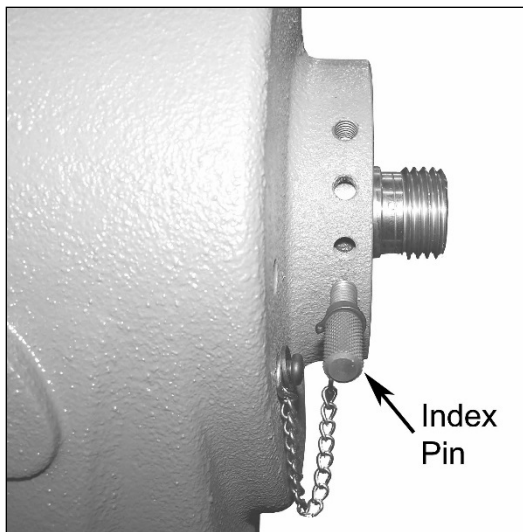

Figure 27
There are 12 holes in the spindle collar spaced 30° apart, and 4 holes in the headstock casting which accept the index pin (see Figures 27 & 28). The combination of these holes will allow you to mark your workpiece for evenly spaced features.
1. To use the indexer, thread the index pin (Figure 27) into one of the four holes until the index pin engages the spindle and prevents it from turning. This will be your first indexing position.